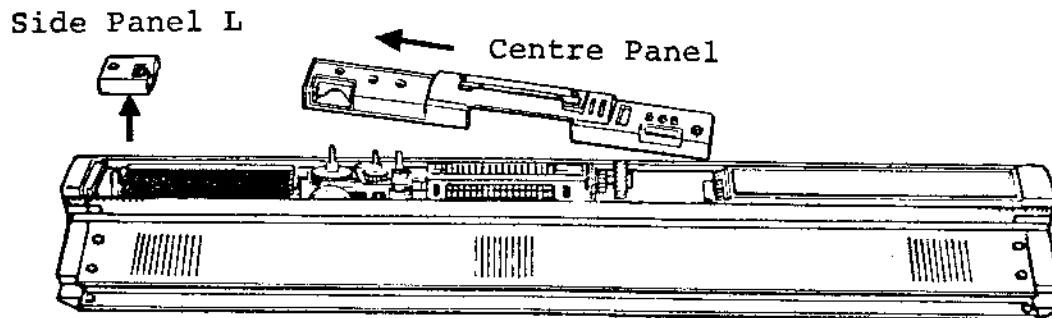

Fig. 24
5. Remove the Side Panel (L) and the Centre Panel Unit. The Centre Panel Unit must be removed in the arrowed direction as shown in Fig. 24.